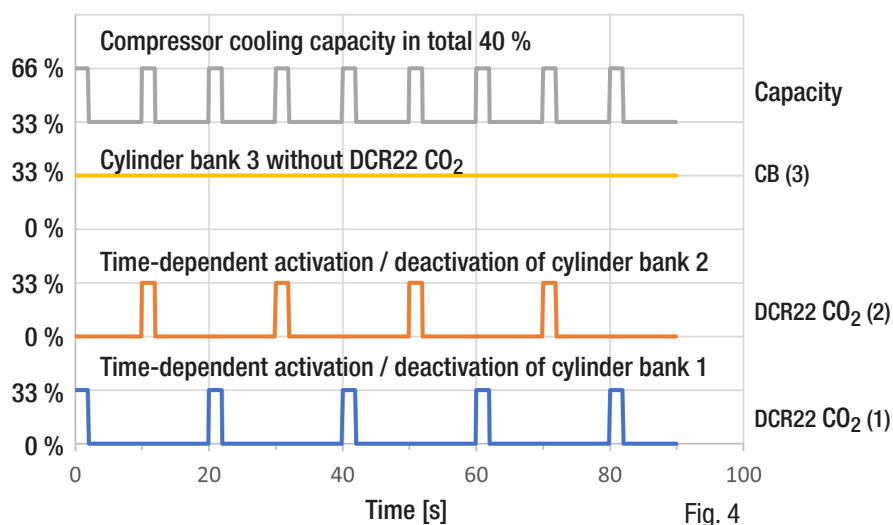

Fig. 4
For capacity requirements < 40 %, the DCR22 CO₂ (2) must be permanently deactivated, the DCR22 CO₂ (1) operates as shown in Fig. 4 with an activation/deactivation time of 2/18 seconds => capacity adjustment to 37 %. If further capacity reduction is necessary, the additional permanent deactivation of the DCR22 CO₂ (1) can reduce the compressor cooling capacity to 33 %. Both cylinder banks are now permanently deactivated.